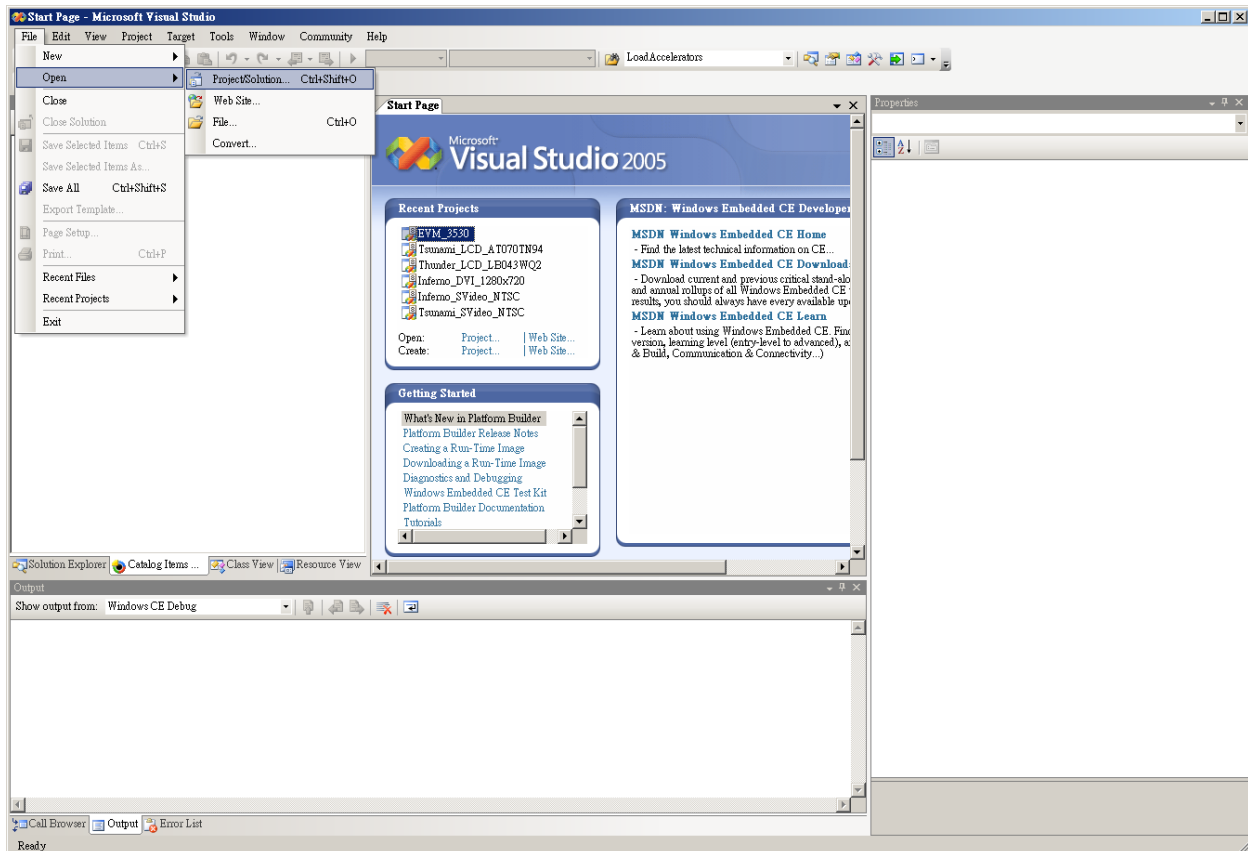

Figure 6
- Click “File → Open → Project Solution” (See figure 6)